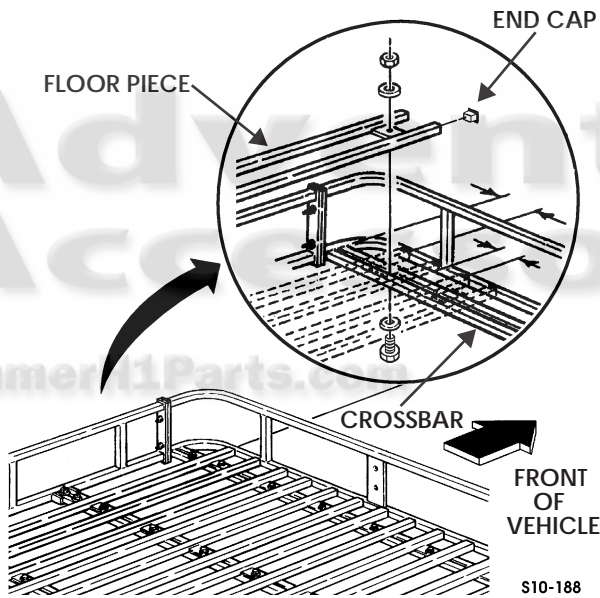

Figure 13-55: Roof Rack Floor Piece
2. Remove four locknuts, washers, capscrews, washers, and floor piece from crossbars and rack ends (Figure 13-55).
1. Install floor piece on crossbars and rack ends with four washers, capscrews, washers, and locknuts. Tighten locknuts to 25 lb-ft (34 N•m) (Figure 13-55).